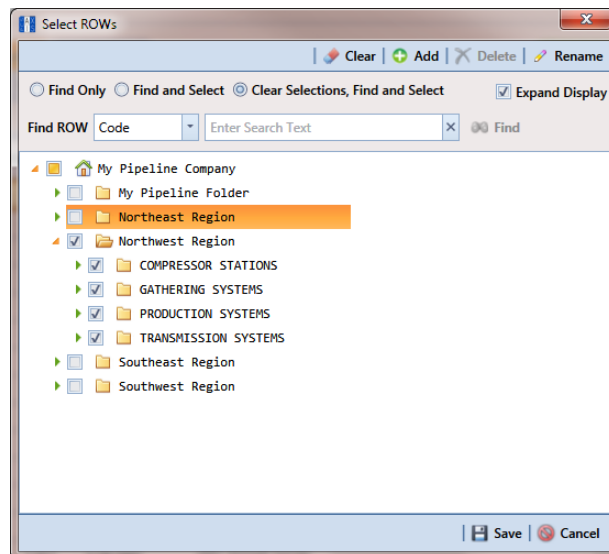

Figure 15-27. Select ROWs
- 1 Select one or more pipeline segments in the *Select ROWs* window. Choose pipeline segment(s) with facilities you want to include in the report. Click  **Save** to close the window (Figure 15-27).
- 1 Select one or more pipeline segments in the *Select ROWs* window. Choose pipeline segment(s) with facilities you want to include in the report. Click  **Save** to close the window (Figure 15-27, page 644).